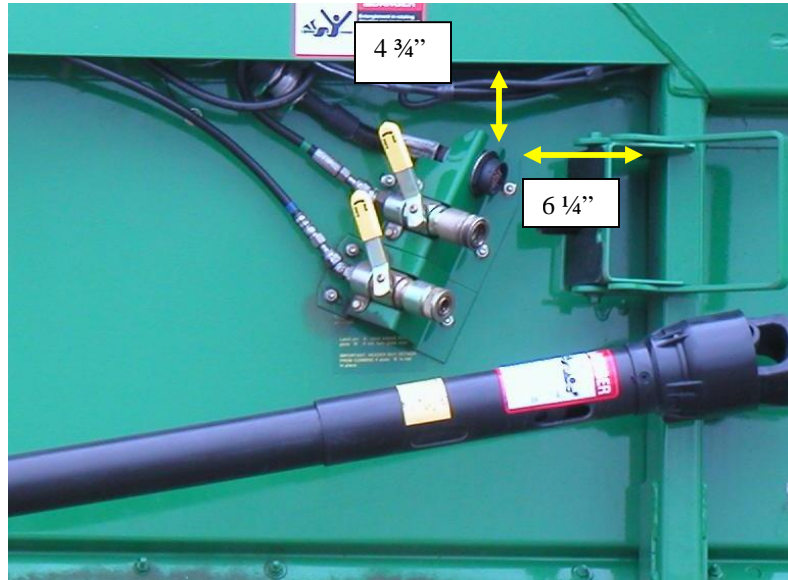

Figure 5
1. On the left hand side, measure from the bottom of the top rail down $4 \frac{3}{4}$ inches and from the vertical beam $6 \frac{1}{4}$ inches, and mark the position. (See **Figure 5**)